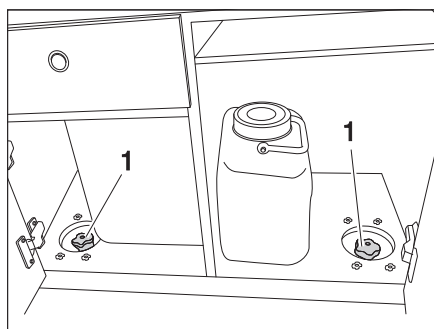

Fig. 56 Loosening the star screws
- Open the cupboard door (Fig. 56,2) and the flap (Fig. 56,3).
- Reach through the 2 openings and loosen the star screws (Fig. 56,1).